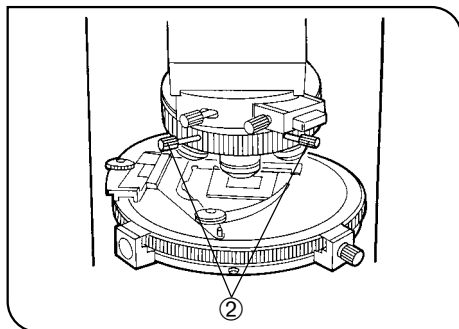

Fig. 27
7. Insert the two provided centering wrenches ② into the centering holes for the primary hole with the 20X or 10X objective on the nosepiece.
8. Manipulate the centering wrenches ② to bring the bright center portion of the conoscopic image into the center of the field of view (Fig. 27)
9. Pull out the Bertrand lens knob to the OUT (O) position. At this state, center the condenser again, as in step 4 above.